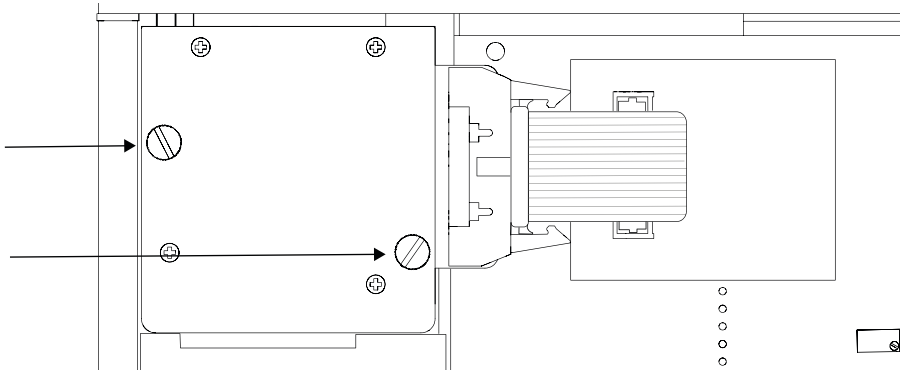

Figure 22 Thumb screws
6. Unscrew the two thumb screws that secure the sensor block (Figure 22).